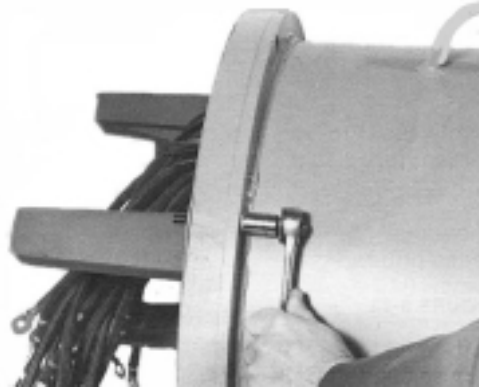

Figure 6-30
1. Remove front bracket mounting screws. (Figure 6-30.)